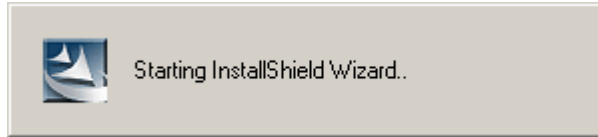

Figure 7-31: RTL8110SC InstallShield Wizard
Step 9: The **InstallShield Wizard** is prepared to guide the user through the rest of the process (Figure 7-31).